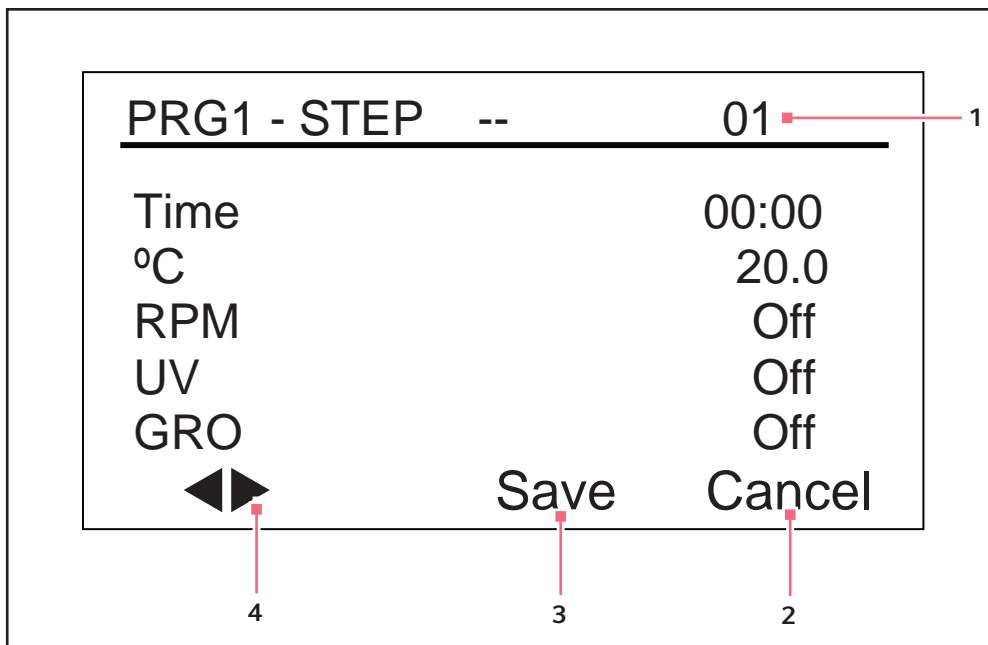

Fig. 9-11: Program 1, Step 1
- Turn the knob until the field says *New*. Click the knob in to select this mode. The screen for Program 1 - Step 1 will open (see Fig. 9-11 on p. 58):
- Turn the knob to highlight the °C temperature setting (20.0 in the sample screen, (see Fig. 9-11 on p. 58)), then click the knob in. The field will flash.